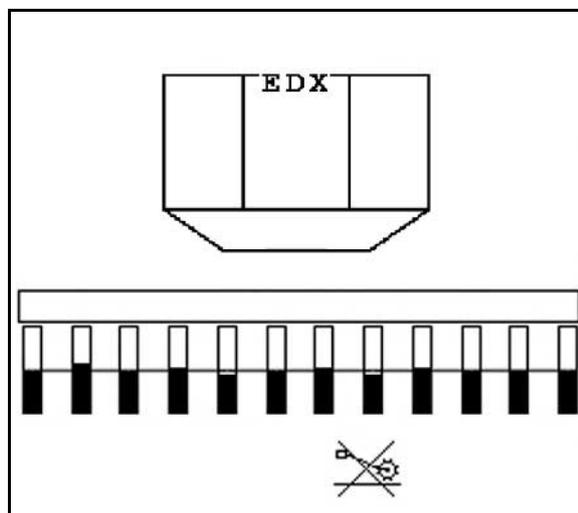

Fig. 56
1.  Preselect Block star wheel (Fig. 56).